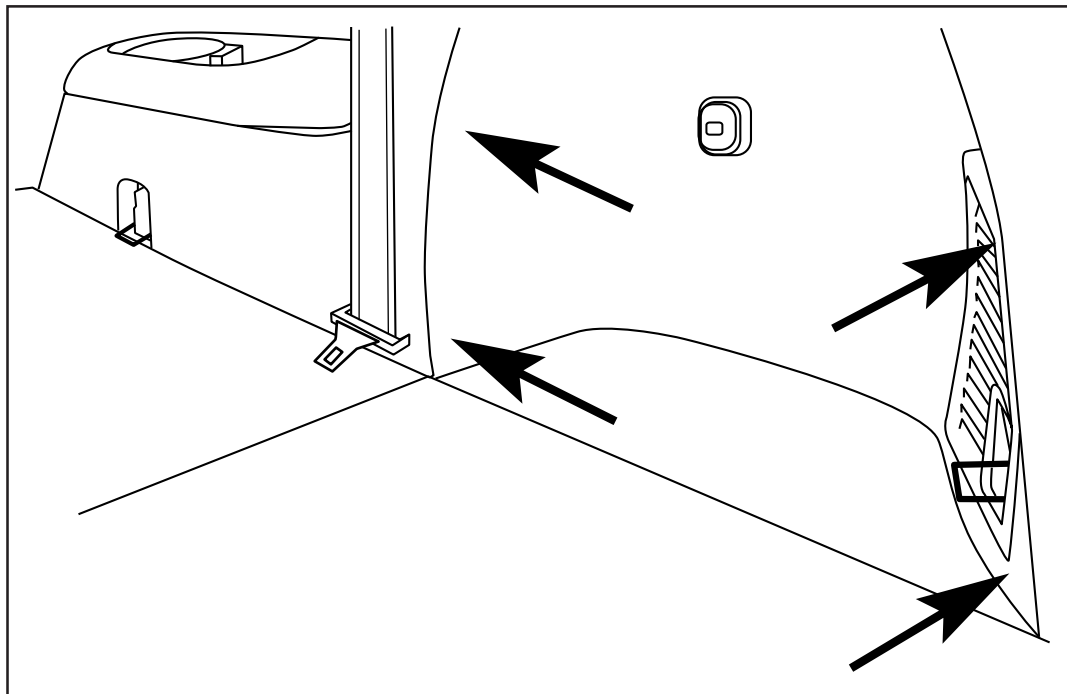

Fig. 1
2. Locate the mounting locations on the passenger side of the vehicle as indicated by the arrows (Fig. 1).